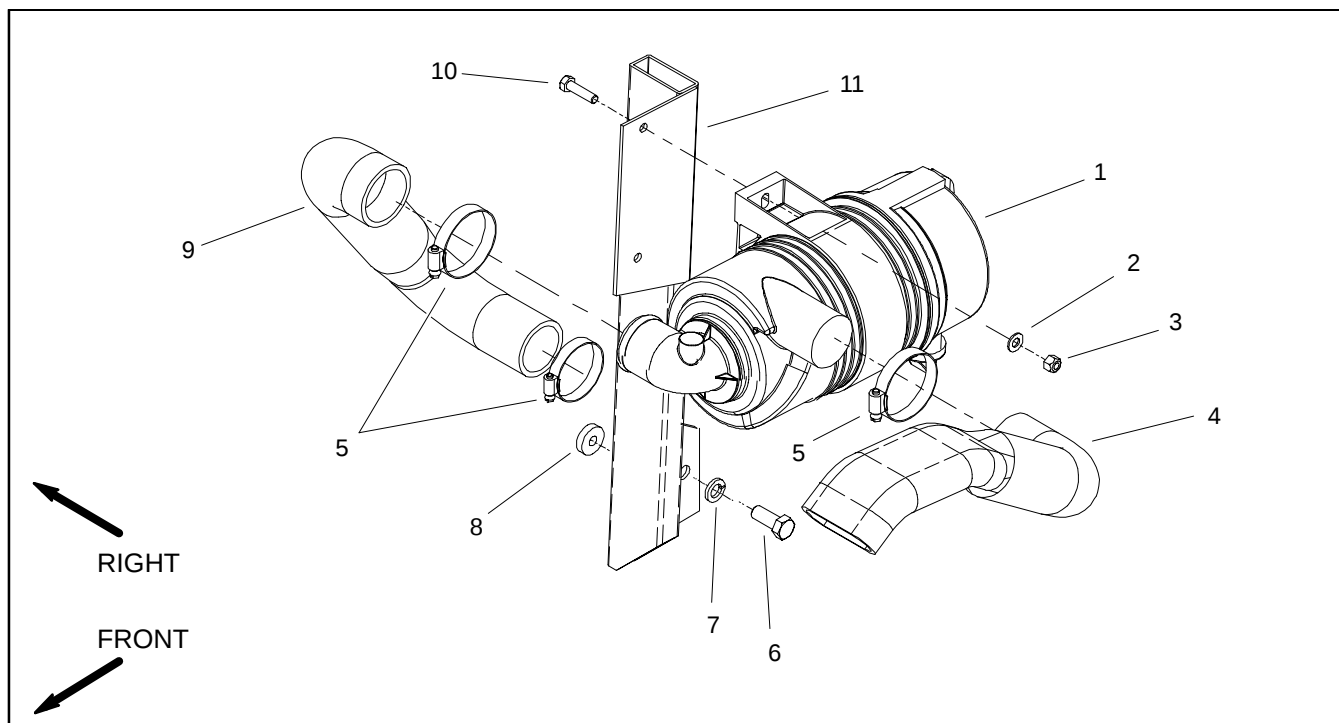

Figure 8
1. Remove air cleaner components as needed using Figures 8 and 9 as guides.
1. Assemble air cleaner system using Figures 8 and 9 as guides. Make sure that vacuator valve is pointed down after assembly.